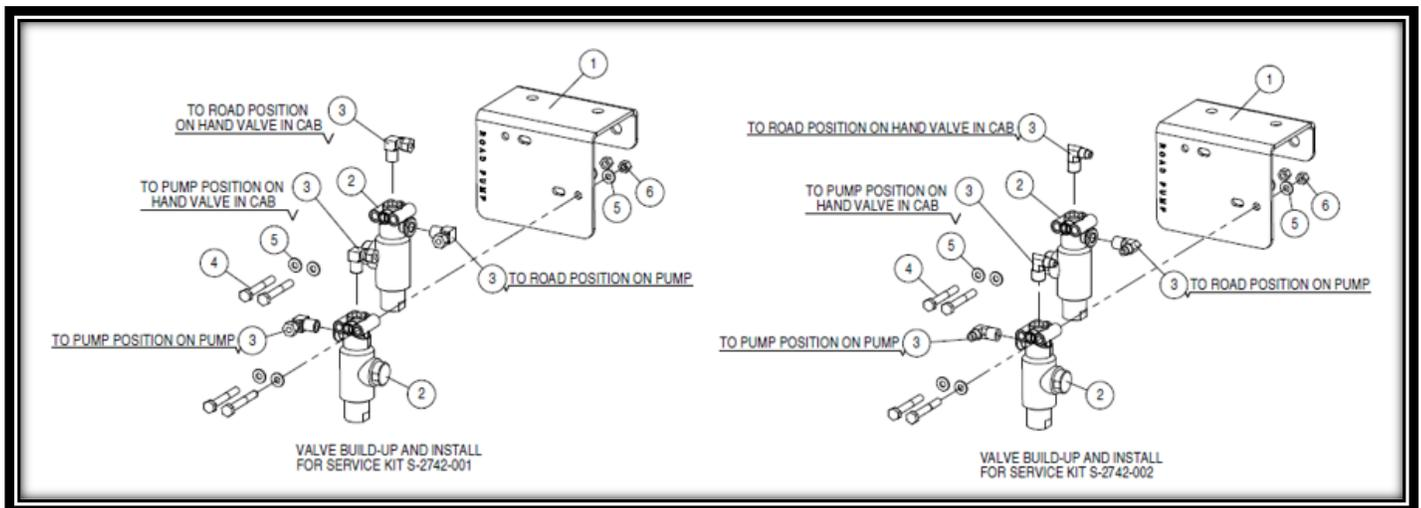

FIG 6.1
Refer to Fig 6.1.
13. Attach the solenoids to the bracket using 05180225H8Y (Item 4), 05FWSAE8Y (Item 5) and 0518LN8Y (Item 6). Torque bolts to 21 lb-ft. Refer to Fig 6.1.